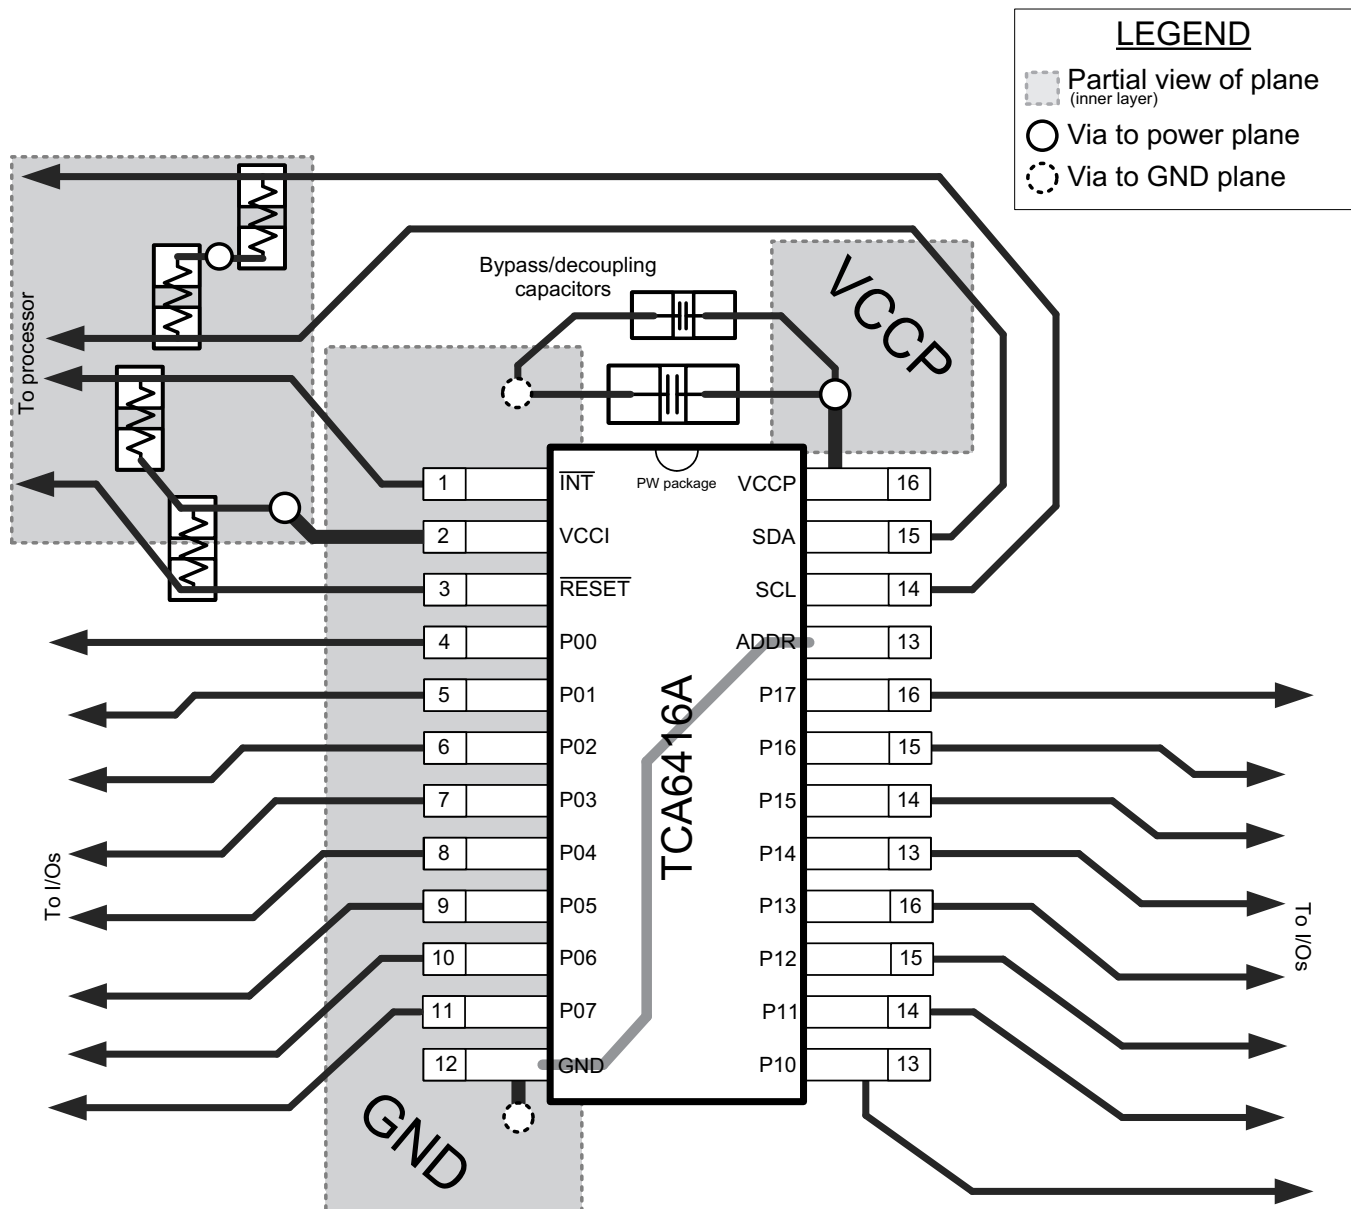

Figure 42. TCA6416A Layout
In all PCB layouts, it is a best practice to avoid right angles in signal traces, to fan out signal traces away from each other upon leaving the vicinity of an integrated circuit (IC), and to use thicker trace widths to carry higher amounts of current that commonly pass through power and ground traces. By-pass and de-coupling capacitors are commonly used to control the voltage on the VCCP pin, using a larger capacitor to provide additional power in the event of a short power supply glitch and a smaller capacitor to filter out high-frequency ripple. These capacitors should be placed as close to the TCA6416A as possible. These best practices are shown in Figure 42.
For the layout example provided in Figure 42, it would be possible to fabricate a PCB with only 2 layers by using the top layer for signal routing and the bottom layer as a split plane for power (V_{CCI} and V_{CCP}) and ground (GND). However, a 4 layer board is preferable for boards with higher density signal routing. On a 4 layer PCB, it is common to route signals on the top and bottom layer, dedicate one internal layer to a ground plane, and dedicate the other internal layer to a power plane. In a board layout using planes or split planes for power and ground, vias are placed directly next to the surface mount component pad which needs to attach to V_{CCI} , V_{CCP} , or GND and the via is connected electrically to the internal layer or the other side of the board. Vias are also used when a signal trace needs to be routed to the opposite side of the board, but this technique is not demonstrated in Figure 42.